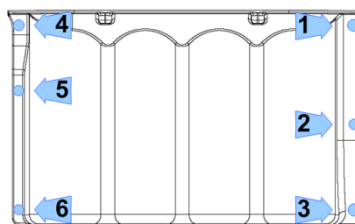

Figure 28 – Capacitor Cover Torque Sequence
28. Place the Capacitor Cover and secure it with the long screw (M5 x 20) and flat washer in position number three (3) as shown in the following figure. Use five (5) remaining screws to secure the cover. Fasten according to the sequence in Figure 28 (Capacitor Cover Torque Sequence). Follow the sequence twice.